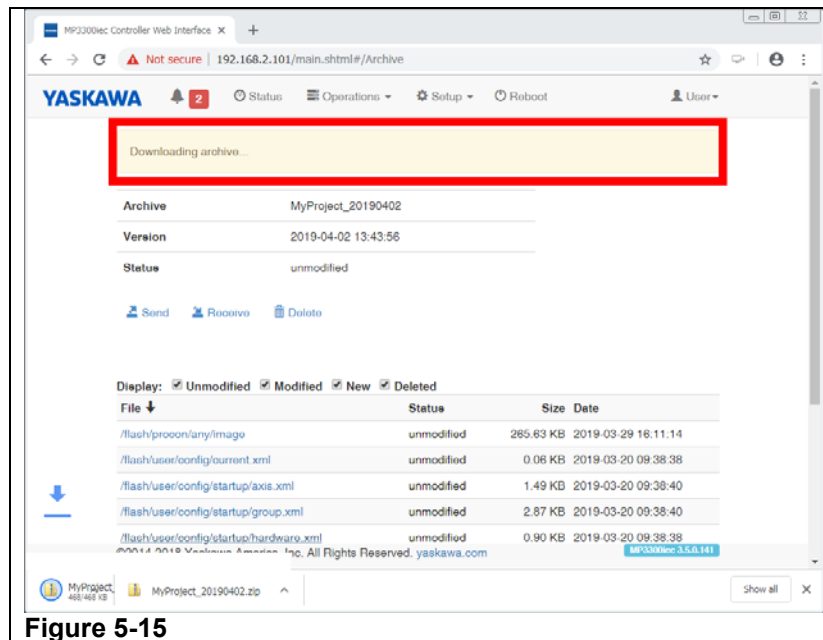

Figure 5-15
- Step 11. A tan colored status banner will be displayed indicating the current status “Downloading archive...”. Allow this to complete. (Refer to Figure 5-15)